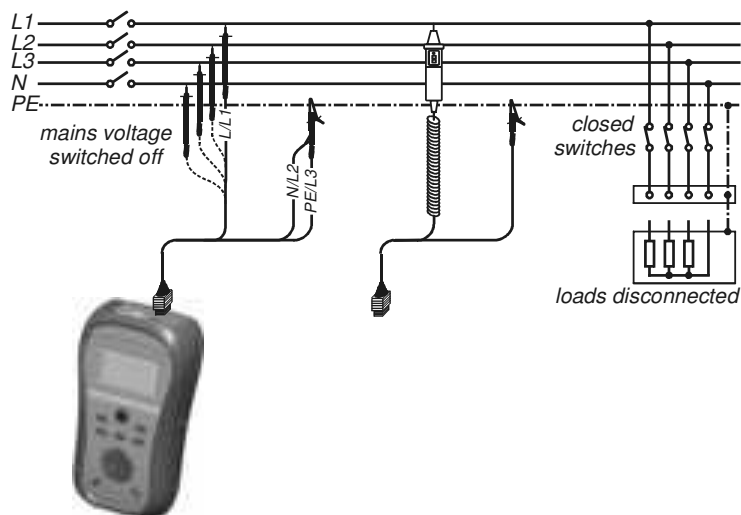

Figure 5.9: Connections for insulation measurement
- ❑ **Connect** test cable to the instrument and to the item to be tested (see figure 5.9).